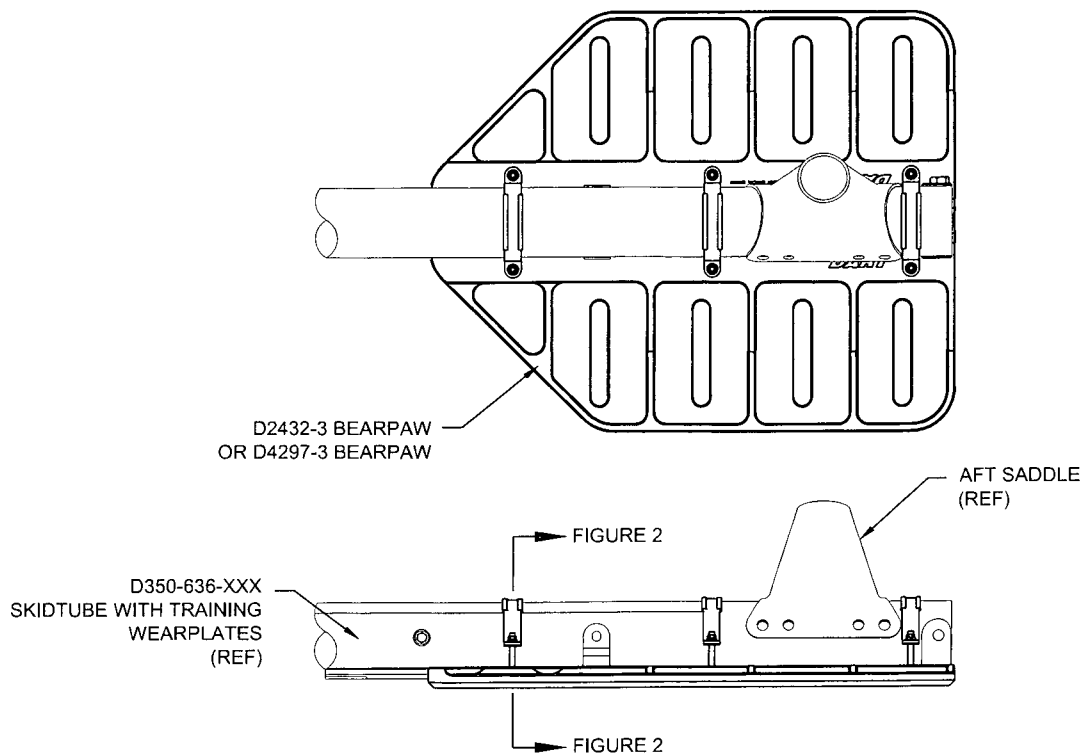

Figure 1 - Bearpaw Location
To install D350-578-015/-017 Bearpaw Kit on Dart D350-636-XXX Skidtubes equipped with training wearplates refer to Figures 1 & 2 of this Service Instruction as well as the following:
- 2.2 Position D2432-3 or D4297-3 Bearpaw on the aft end of each skidtube so that the bearpaw clamps are located on either side of the aft saddle as shown in Figure 1 of this Service Instruction. The Bearpaws should be installed over the training wearplates.